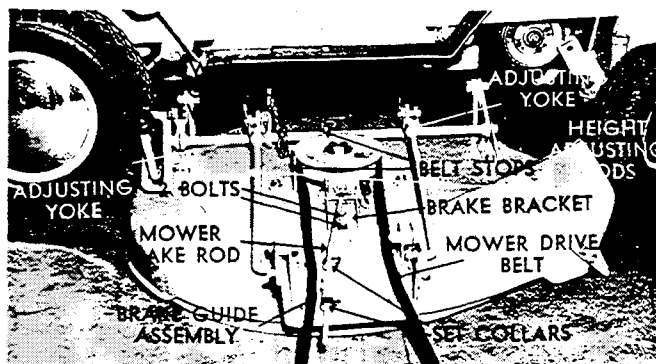
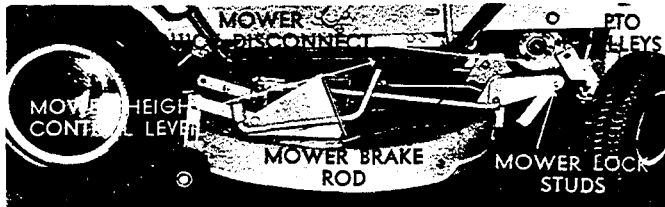

FIG. 51
FIG. 52
To attach the mower to the tractor, first park the tractor on level ground. Move the P.T.O. Lever to the "Disengaged" (rear) position. Put the mower down on the right side of the tractor so that it faces perpendicularly away from the tractor (Fig. 51). Turn the front wheels of the tractor hard to the left to give a clear access to the underneath. Push the mower straight in under the tractor to the point where it can be turned 90° to face in the same direction as the tractor (Figure 52).
Now lift the front of the mower up and back so that the lock studs on each side of the Mower Arm will drop down into the slots of the Mower Quick-Disconnect Assembly, (Fig. 52)
To raise the blade tip at the front, turn the Yokes on the Adjusting Rods clockwise (counterclockwise to lower) (Fig 51).
Position the brake so that the face touches both tips of pulley, then tighten the two (2) bolts holding the Brake Bracket to the Mower Housing (Fig. 51).